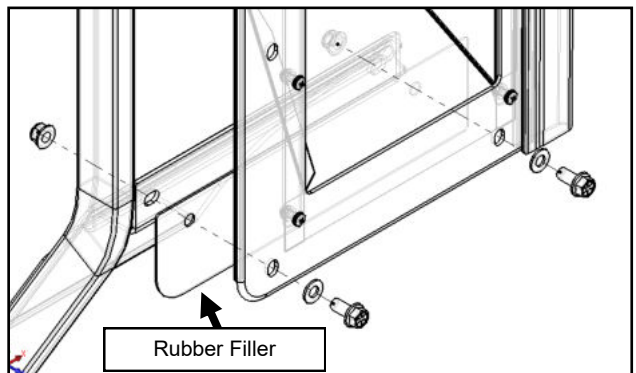

Fig. 10.2 (Rubber Filler, Right)
10.2 Insert the rubber filler between the bottom of the plastic cowl and the floorboard on each side. Ensure the rounded corner is oriented towards the outside of the vehicle. See Figure 10.2.